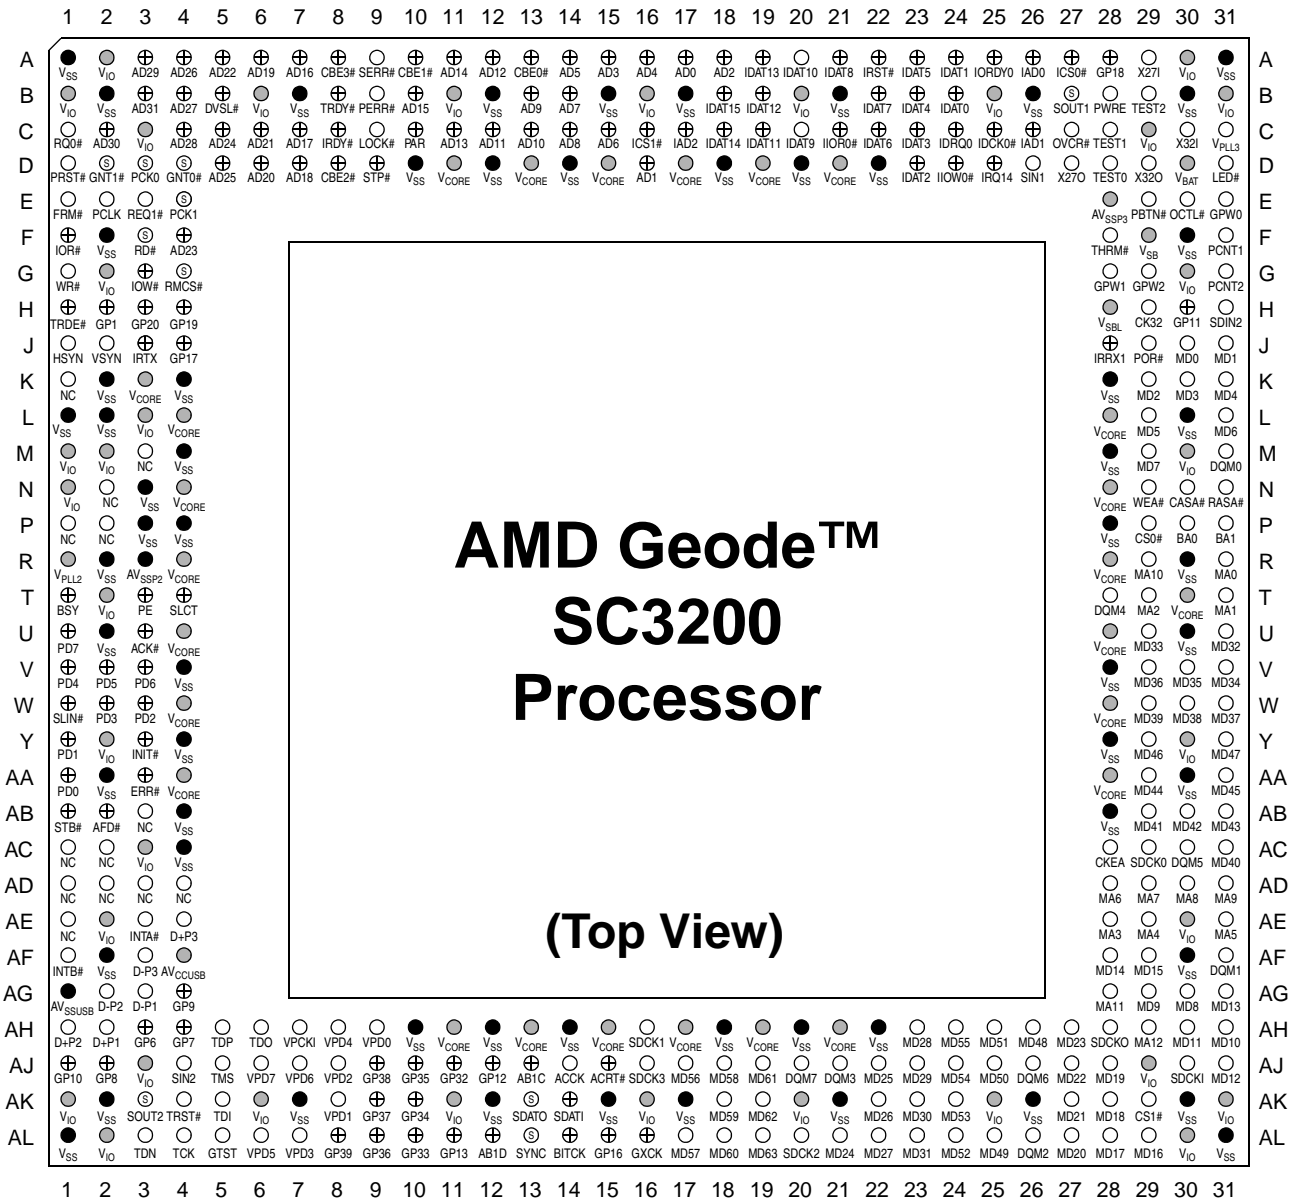

Figure 3-2. BGD432 Ball Assignment Diagram
- Figure 3-2 on page 28 and Figure 3-3 on page 43: Illustrations of BGD432 and BGU481 ball assignments.